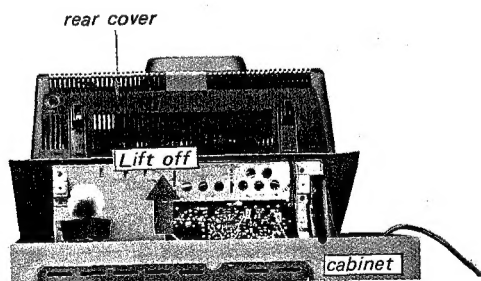

Fig. 2-3.
5. Lift off the rear cover as shown in Fig. 2-3.